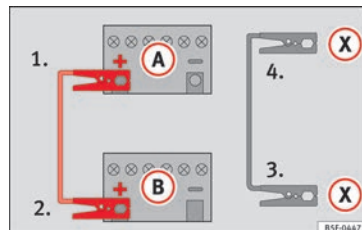

Fig. 60 Diagram of connections for vehicles with Start Stop system
- *For vehicles with Start-Stop system:* connect one end of the *black* jump lead (X) to a suitable ground terminal, to a solid piece of metal in the engine block, or to the engine block itself »» **Fig. 60**.
5. Connect the other end of the *black* jump lead (X) to a solid metal component bolted to the engine block or to the engine block itself of the vehicle with the flat battery. Do not connect it to a point near the battery (A).